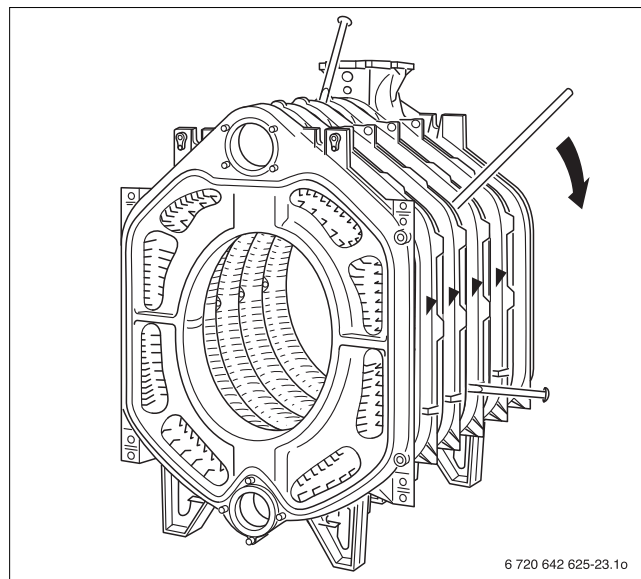

Fig. 26 Separating the boiler block
- ▶ Separate the boiler block at the leak location by driving (knocking) in flat wedges or chisels between the sections at the points provided at the top and bottom (→ Fig. 26).